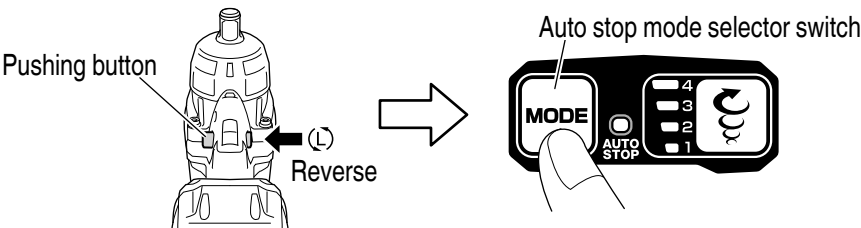

Fig. 24
- (4) Auto slow mode (**Fig. 24, Table 7**)